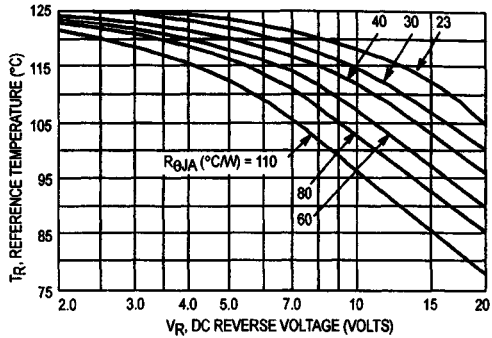

Figure 1. Maximum Reference Temperature 1N5817
Figures 1, 2, and 3 permit easier use of equation (1) by taking reverse power dissipation and thermal runaway into consideration. The figures solve for a reference temperature as determined by equation (2).
Inspection of equations (2) and (3) reveals that T_R is the ambient temperature at which thermal runaway occurs or where $T_J = 125^\circ\text{C}$, when forward power is zero. The transition from one boundary condition to the other is evident on the curves of Figures 1, 2, and 3 as a difference in the rate of change of the slope in the vicinity of 115°C . The data of Figures 1, 2, and 3 are based upon dc conditions. For use in common rectifier circuits, Table 1 indicates suggested factors for an equivalent dc voltage to use for conservative design, that is: